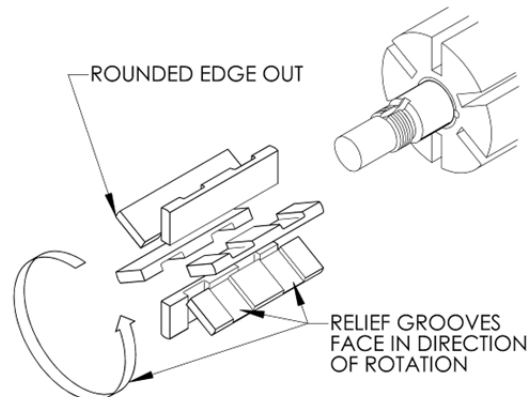

Figure 4
3. Install a new vane, ensuring that the rounded edge is UP, and the relief grooves are facing towards the direction of rotation. See Figure 4.
8. Inspect the vanes (14) and push rods (77) for wear and damage, and replace as follows:
- a. Partially install the non-driven end of the rotor and shaft (13) into the open side of the pump cylinder.
- b. Leave part of the rotor outside of the cylinder so that the bottom vanes can be installed and held in place as the push rods are installed in the push rod holes of the rotor. Insert the new vanes into the rotor slots with the rounded edges outward, and the vane relief grooves facing TOWARDS the direction of rotation. See Fig. 4.